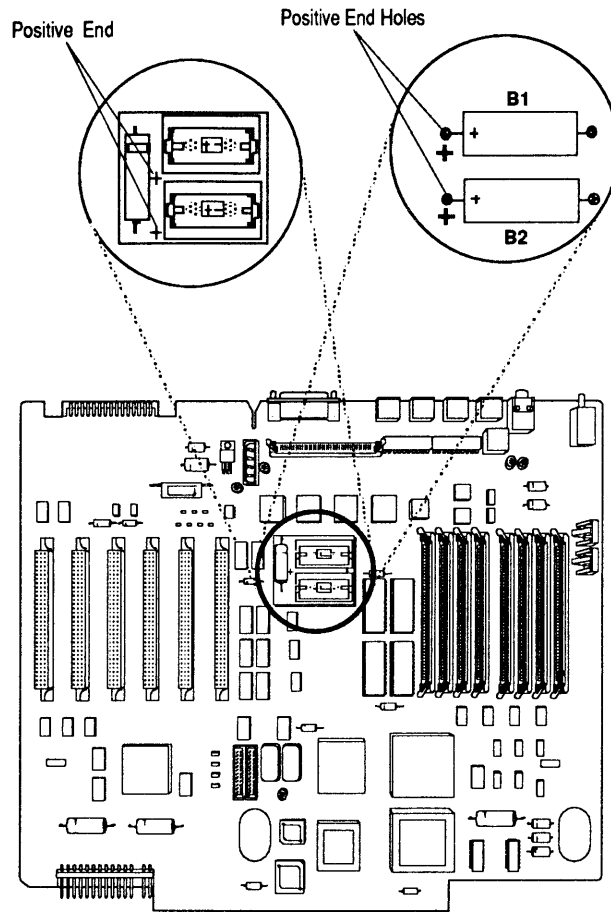

Figure 5-2
6. **Figure 5-2.** Insert the battery holder board so its positive-marked end is inserted into the two positive-marked holes on the logic board, and so the battery holder board is flush with the logic board.